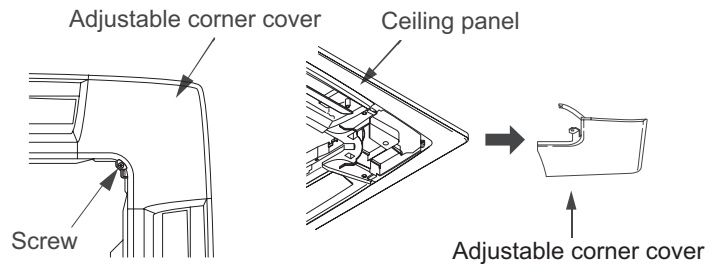

Fig. 1-220
- 2 Remove the screw holding the adjustable corner cover. Then slide the cover to the side and remove it. (Fig. 1-220)